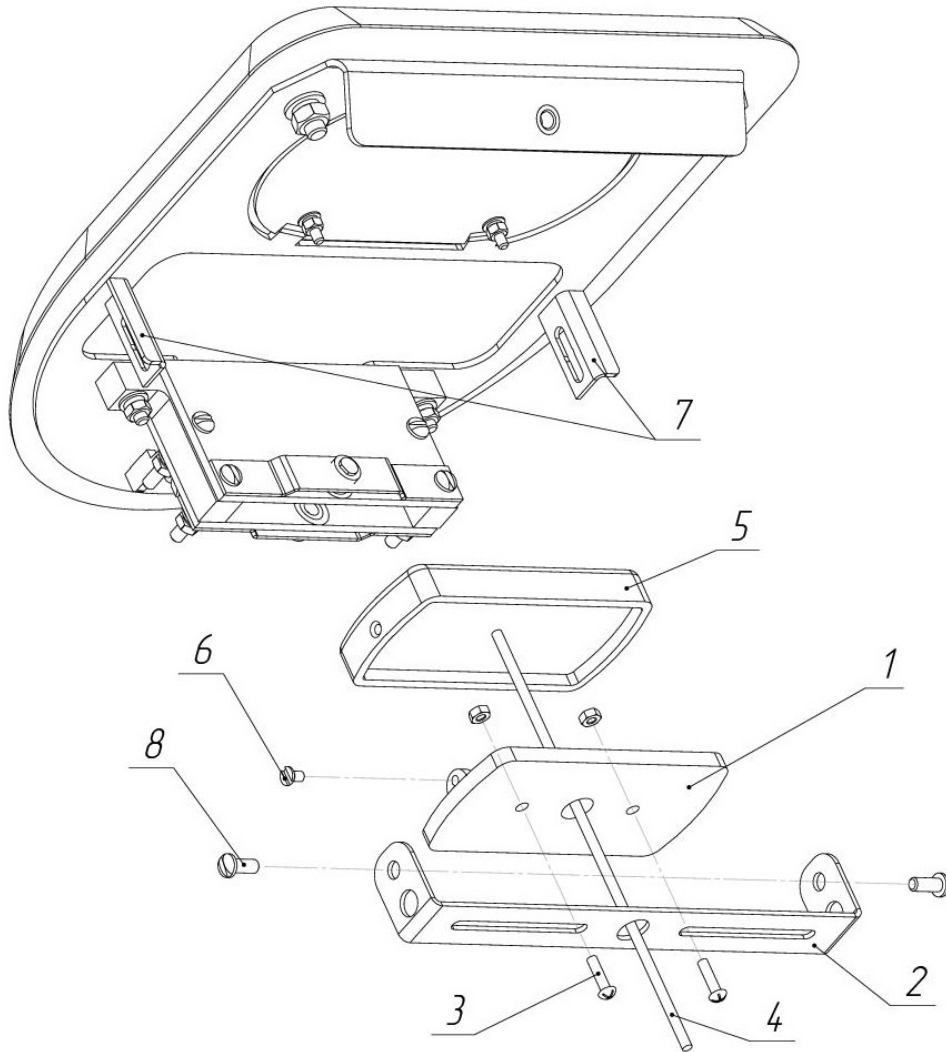
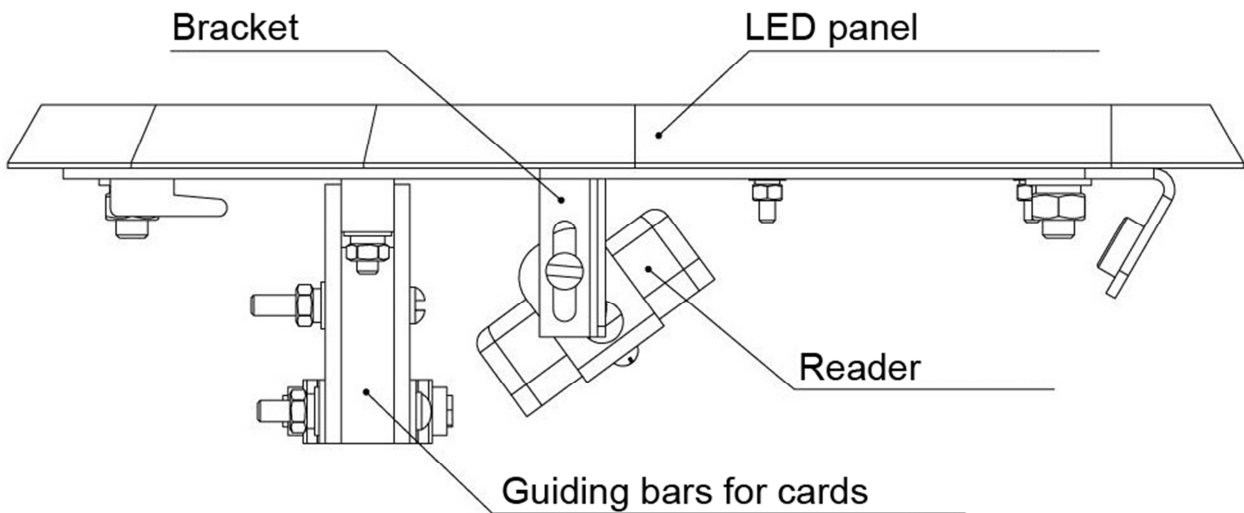

Fig. 16. Installation of proximity card reader
Fig. 17 Recommended option of card reader installation
6.5.3. Remove two M4 screws (8, Fig. 16) and remove the universal bracket for readers (2, Fig. 16).
6.5.4. Disassemble the reader, removing the M3 screw (6, Fig. 16), and set its lower part (1, Fig. 16) on the bracket using the two M4 screws with nuts, washers and lockwashers (3, Fig. 16).
6.5.5. Put the cable (4, Fig. 16) in the bracket hole, install the top cover of the reader (5, Fig. 16). Tighten the M3 screw (6, Fig. 16).
6.5.6. Fix the bracket to clips (7, fig. 16) using the M4 screws (8, Fig. 16). It is recommended to install a reader at an angle of 40 ... 50° to guiding bars for cards (Fig. 17). In this case, the guest and permanent card will be read equally well.